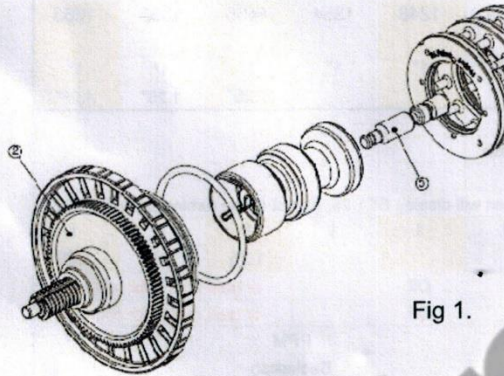

Fig 1.
Disconnect the power from the valve; remove the cover and then the drive bracket with the software attached. You then need to remove the drive cap assembly item 2 Fig 1 by un screwing anti clockwise and removing the assembly behind; then add the brine piston item 5 Fig 1, this will clip into position at the end of the amber piston.